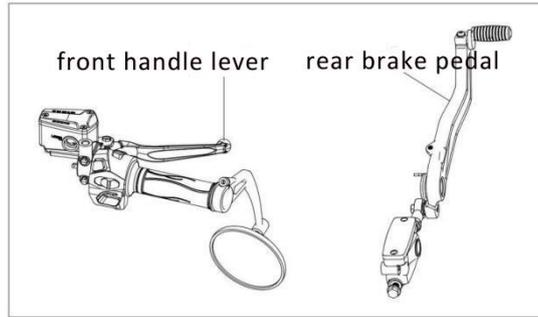

Fig.12 Brake position
5.4.1. Shift operation (Figure 12, Figure 13)